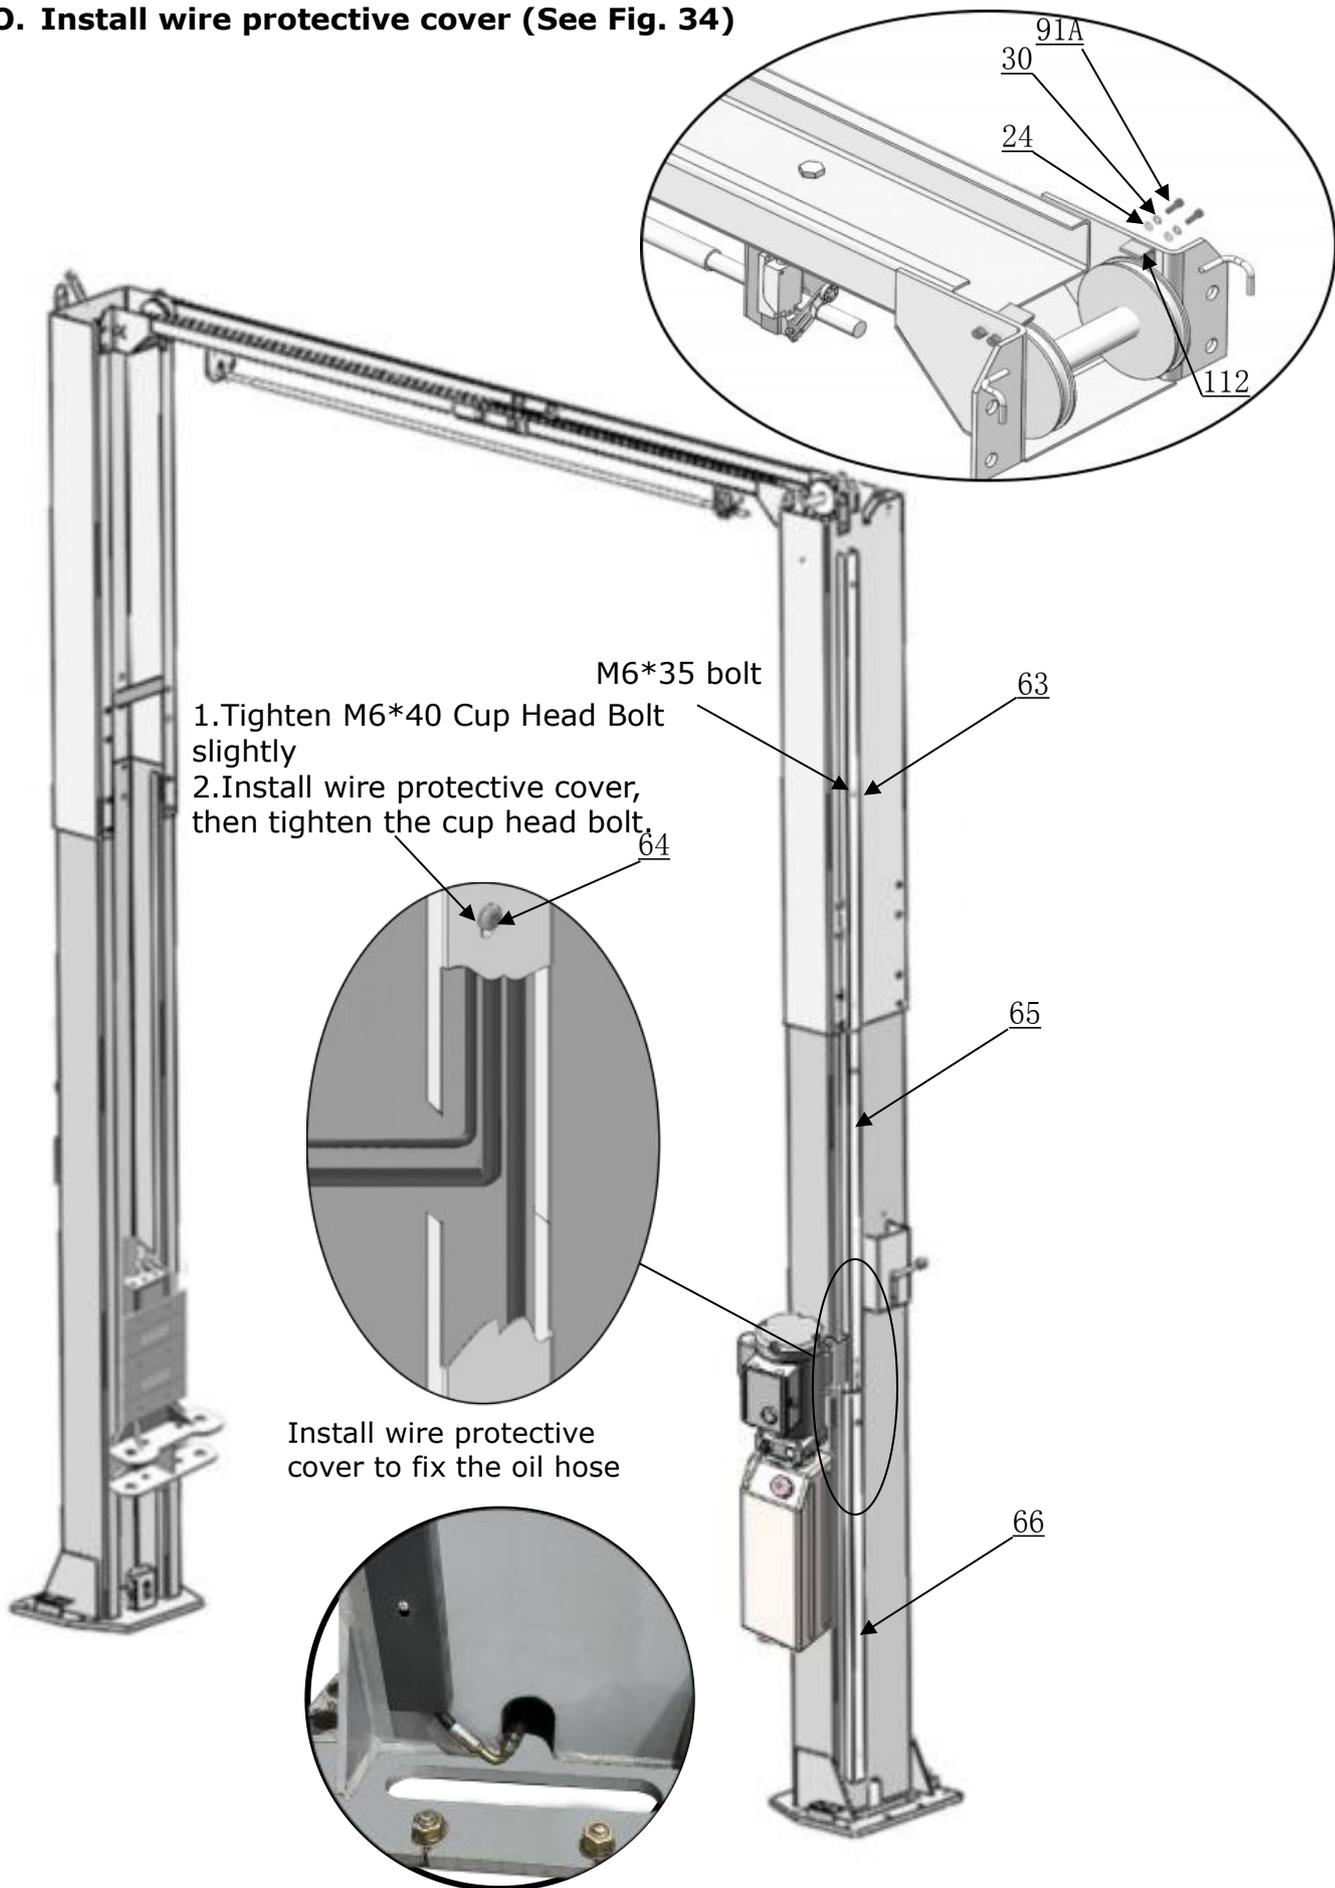

Fig. 34
O. Install wire protective cover (See Fig. 34)